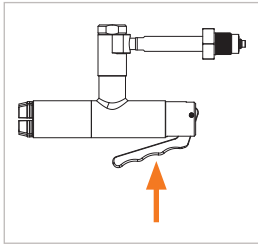

Figure 1
- ▶ Actuate the hand lever (Pos. 2) (Figure 1). The clamping jaws open.